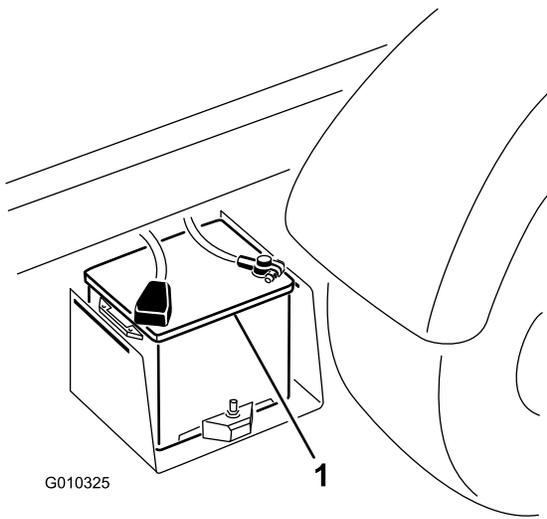

Figure 52
2. Connect a jumper cable between the positive posts of the 2 batteries (Figure 52). The positive post may be identified by a + sign on top of the battery cover.